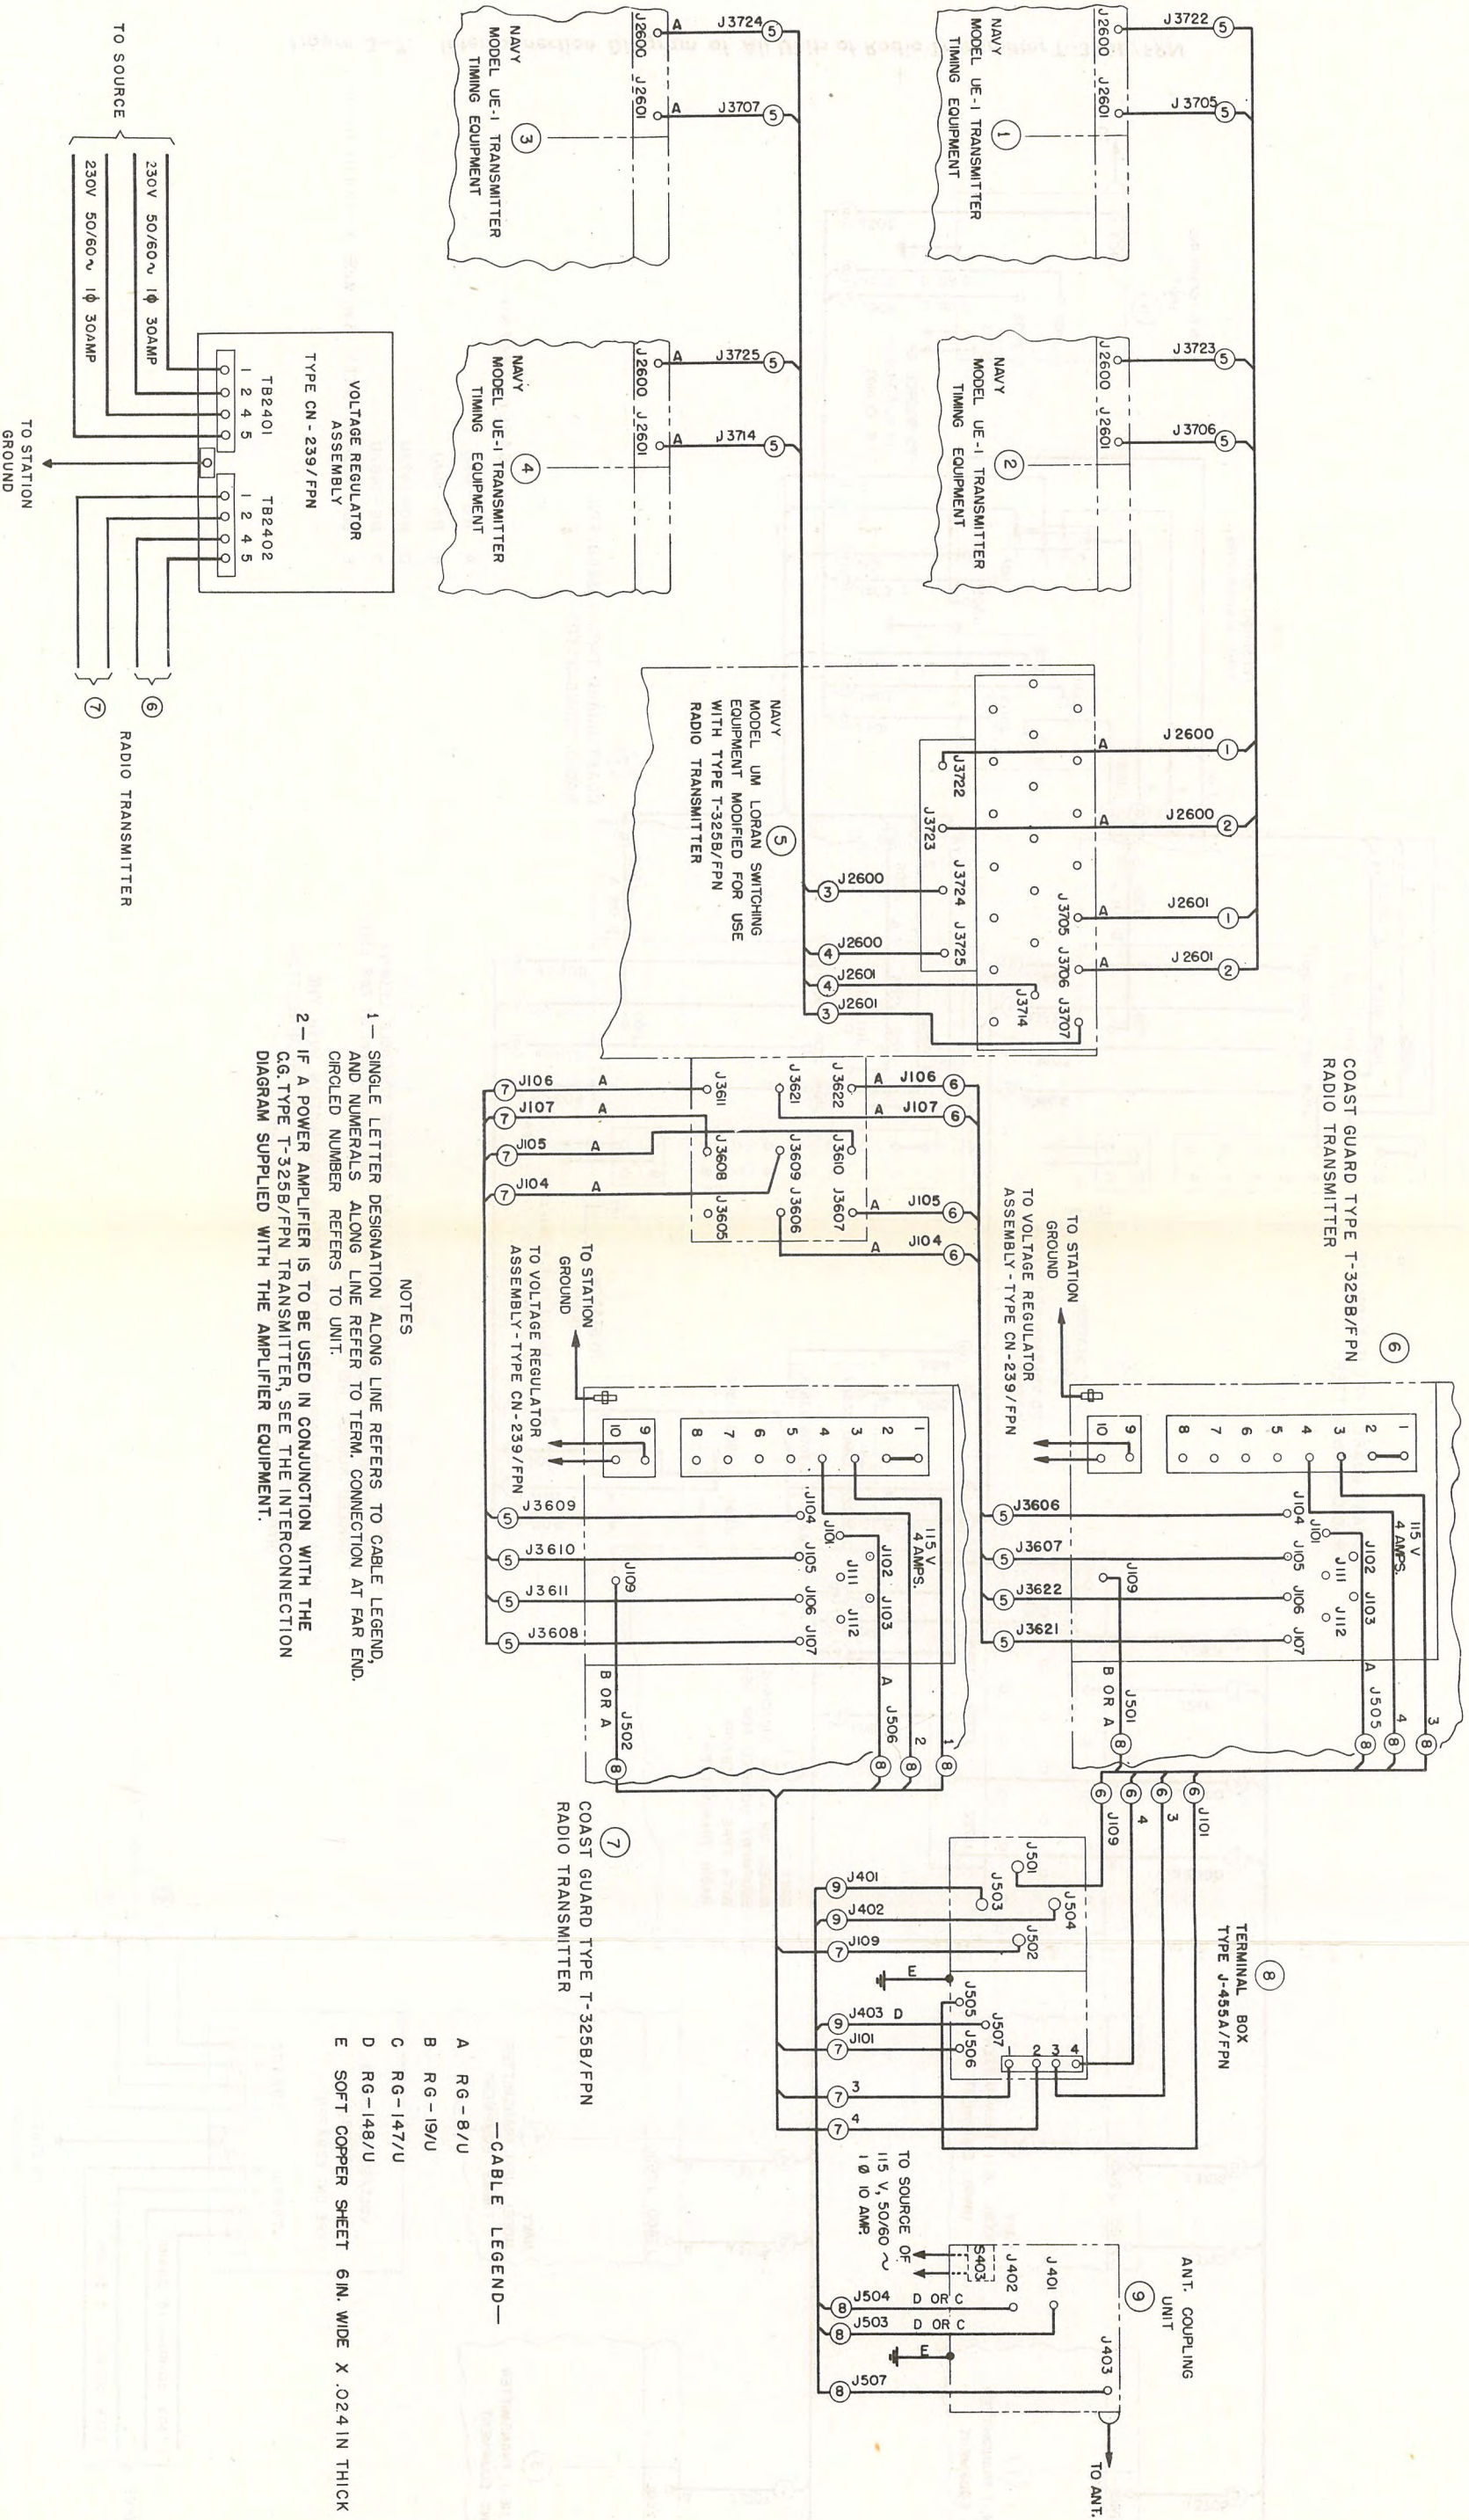
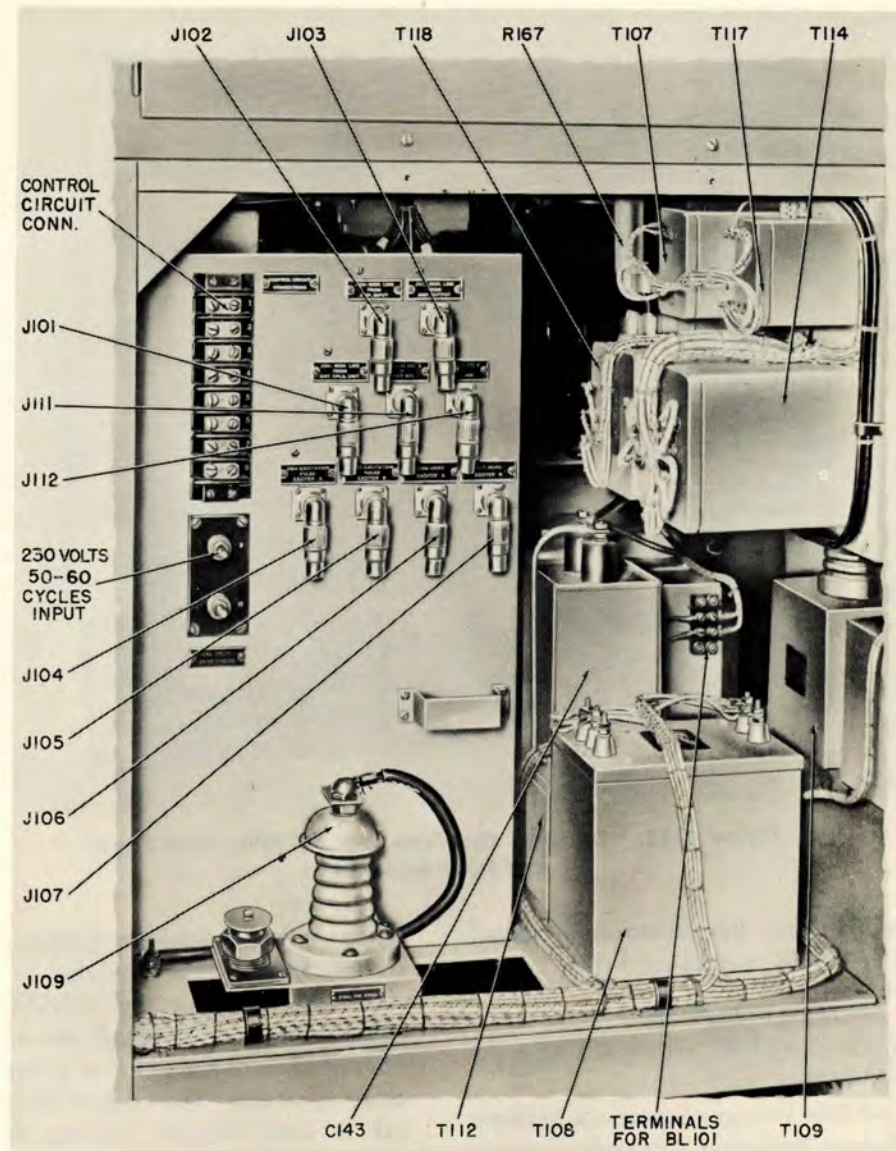
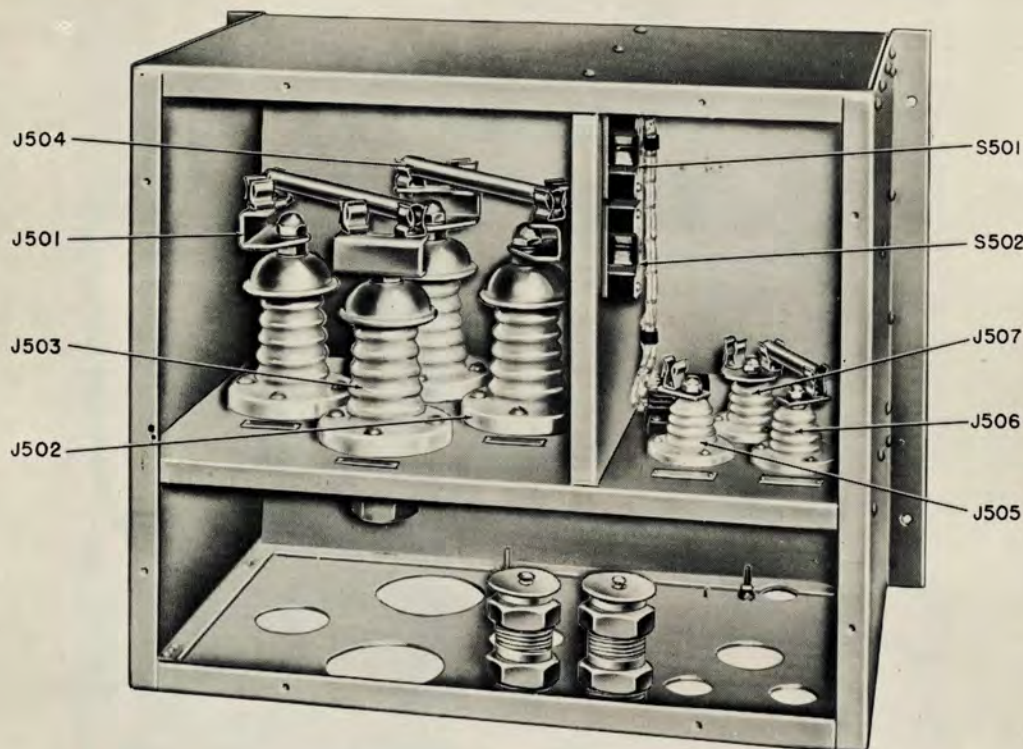

Figure 3-7. Interconnection Diagram of All Units of Radio Transmitter T-325B/FPN
Figure 3-12. Transmitter Terminal Board
Figure 3-13. Terminal Box Type J-455A/FPN, Front Panel and Door Removed
All interconnection data for the transmitter and the units supplied with it are shown in figure 3-7. Only those connections are included which affect the transmitter equipment. For additional information on the timer and switching unit connections, refer to the instruction books supplied with those units.
a. TIMER — SWITCHING UNIT CONNECTIONS. — As shown in figure 3-7, type RG-8/U coaxial cable (not supplied) is to be used to connect the timing units to the switching unit. Navy type #49195 plugs are supplied to terminate the cables. The plugs are supplied on the jack terminals to which the cables are to connect. Instructions for connecting the plugs to the coaxial cable will be found in Section 10, paragraph 3, of the Model UM Switching Equipment Instruction Book (NAVSHIPS 900,745).
d. VOLTAGE REGULATOR ASSEMBLY—TRANSMITTER CONNECTIONS. — The Voltage Regulator Assembly supplies regulated 230 volts to both loran transmitters, each voltage regulator supplying one transmitter. As shown in figure 3-7 the regulated
output voltage of the lower voltage regulator is obtained at terminals 1 and 2 of output terminal board TB2402 and the regulated output voltage of the upper regulator at terminals 4 and 5. As indicated on figure 3-7 the 230-volt leads from these terminals to the power input terminals 9 and 10 on the transmitter (see figure 3-12) must each be capable of carrying 30 amperes.
Jacks J111 and J112 (figure 3-12) are to be used to supply synchronizing signals to an external monitor, via type RG-8/U cable. The Navy #49195 plugs for the cables are supplied on the jacks.
f. TRANSMITTER — TERMINAL BOX CONNECTIONS. — The r-f output connection from each transmitter to the terminal box is to be made with type RG-19/U or RG-8/U coaxial cable.* The cable is terminated in end-seal connections, and runs from J109 in each transmitter (figure 3-12) to J501 and J502 in the terminal box (figure 3-13). Instructions for making the end-seal connections are given on figures 3-14 and 3-15.
(18) If the power-line frequency is 50 cycles, change the primary connection of the control-voltage transformer (T108) from the 230-volt tap to the 253-volt tap. The transformer is located (see figure 3-12) in the rear left-hand corner of the transmitter on the floor. When operating from 50 cycles, the designation plate for the TUBE HOURS meter should be reversed so as to read "TIME=READING x 6/5".